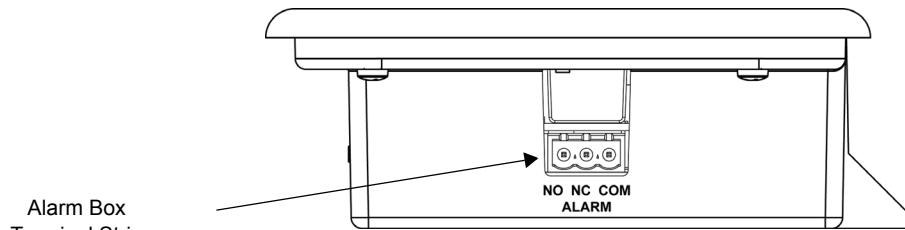

Figure 10
- 1 Starting at the first water heater on the network route the included Cat 5 network cable (see Table 1 on page 1) back to the CM (communication module - see Figure 10 on page 9). Ensure the cable end at the water heater has approximately 24 inches of slack at the top of the water heater for internal connections. If the included network cable is not long enough to reach between the CM and the first water heater on the network longer Cat 5 cables are available at local home centers or can be fabricated in the field.
- 3 Plug the network cable from the first water heater on the network into the “Multi Port” on the front edge of the CM - see Figure 10 on page 9 and Figure 2 below.